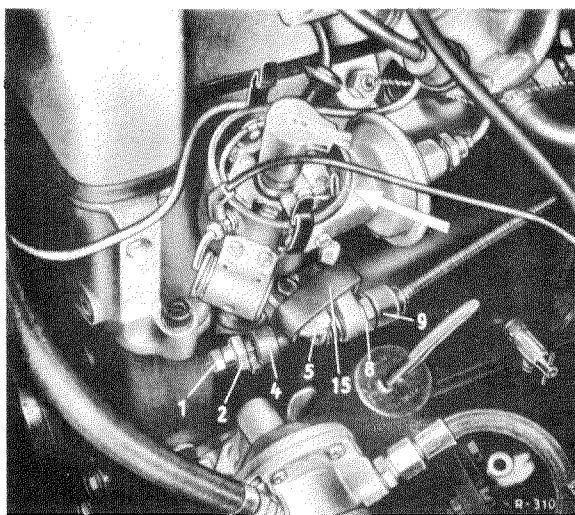

Fig. 30 — 8/2
- a) move the timing lever (5) at the distributor bearing **right over to the advance stop** and fix it in this position with a clamp (15) (Fig. 30 — 8/2).